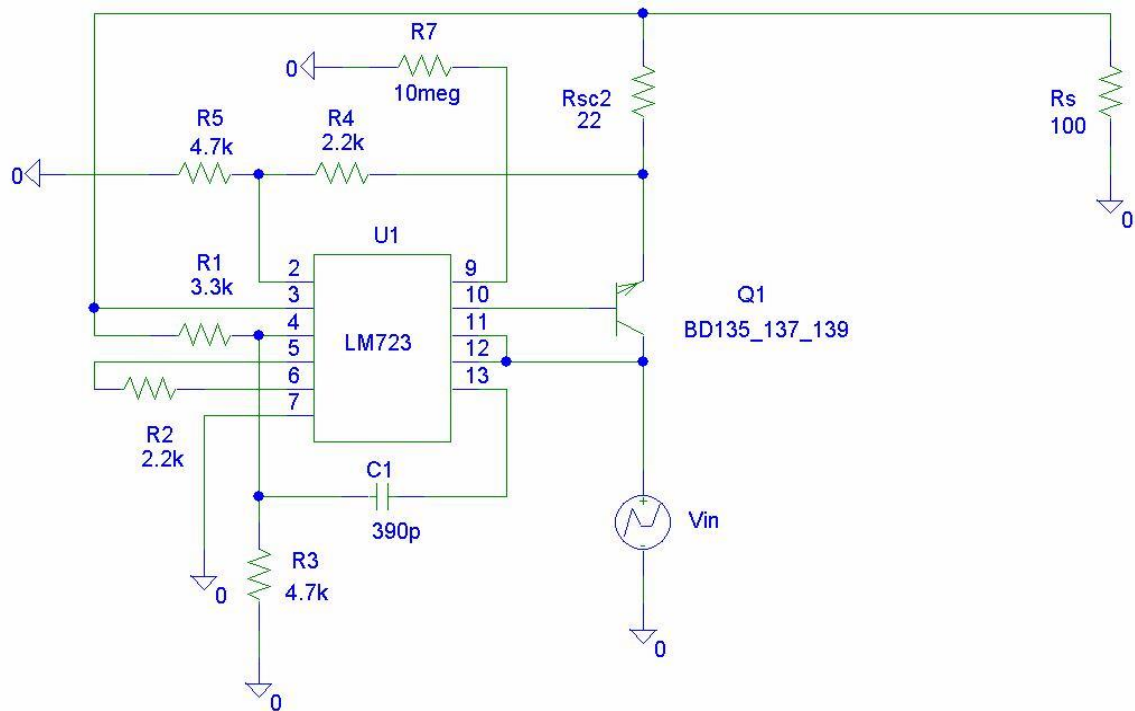
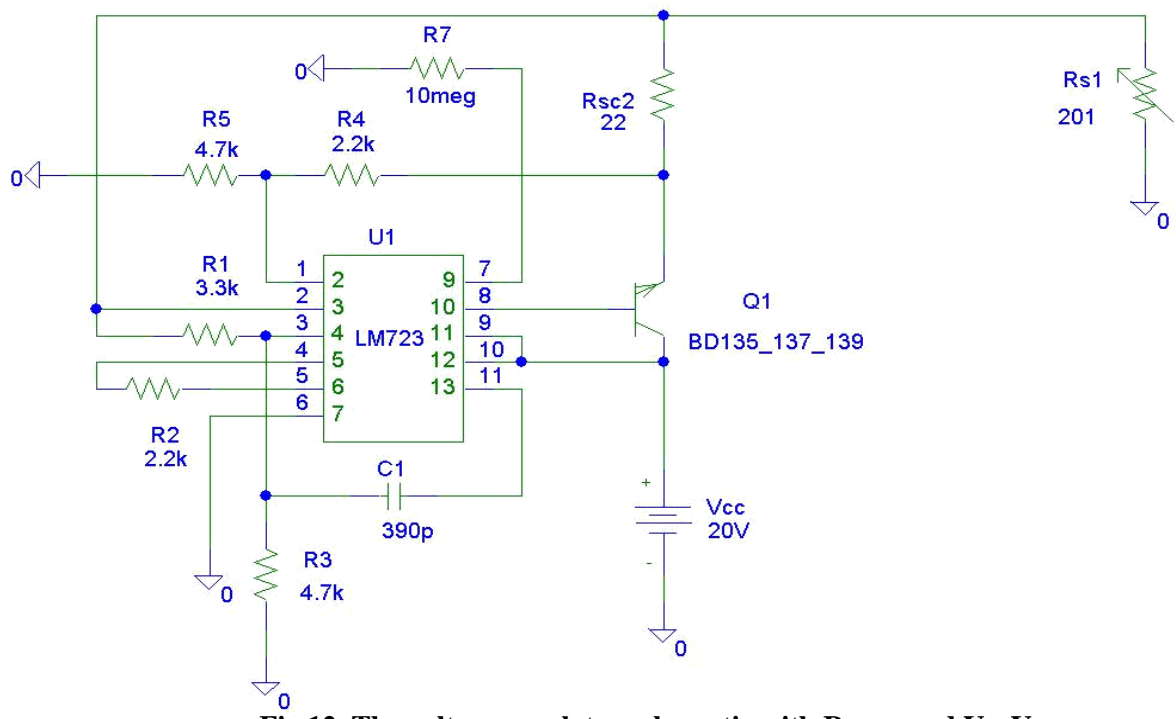

Fig 5. The schematic diagram of the voltage regulator for high output voltages $V_o > V_R$
Fig.12. The voltage regulator schematic with R_{var} and $V_o > V_R$
- Draw the electrical diagram of the linear voltage stabilizer with $V_o > V_R$ and over current protection (Fig.5).
- Modify the circuit in Fig.5 by replacing the variable power supply (V_{in}) with a fixed voltage source V_{cc} ($V_{DC}=20V$). Replace the load with a variable resistor R_{var} (named R_s1) (Fig.12).